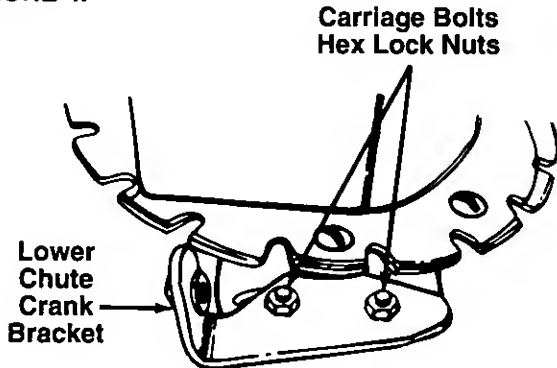

FIGURE 5.
3. Loosen the carriage bolts and hex lock nuts which secure the lower chute crank bracket to the extension on the left side of the chute assembly. See figure 5.